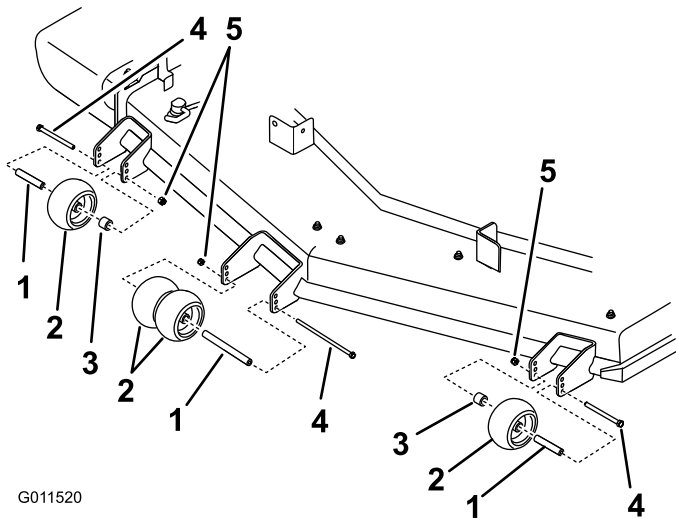

Figure 26
3. Remove the nut and bolt, position the anti-scalp rollers, and install the nut and bolt. Ensure that the spacers and bushings are installed as shown (Figure 26).